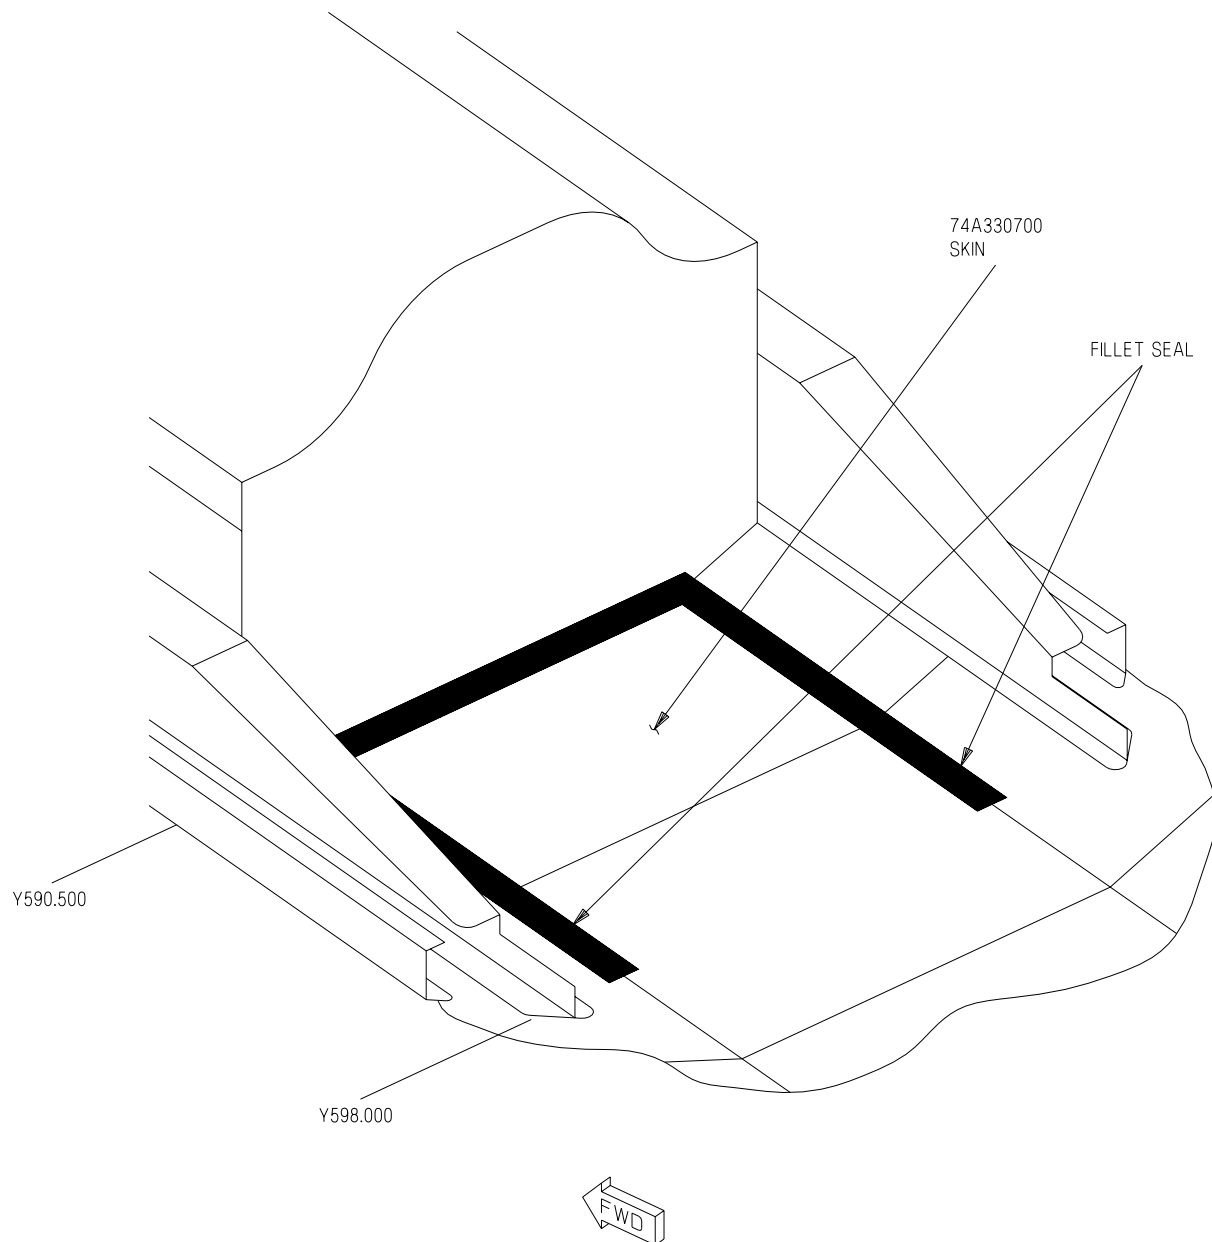

Figure 1. Speed Brake Well Fillet Seal
4. SPEED BRAKE WELL FILLET SEAL. See figure 1.**Support Equipment Required**